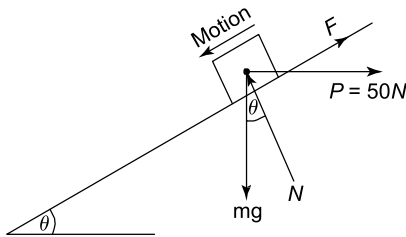

Figure 17.12
The primary forces for this problem are shown in Figure 17.12, where it can be seen that F is opposite to the direction of motion.
11. Determine the value for θ which will just cause motion down the plane, when $P = 250 \text{ N}$ and acts in the direction shown in Figure 17.12. It should be noted that in this problem, motion is down the plane, $\mu = 0.5$ and $m = 50 \text{ kg}$. [$\theta = 53.58^\circ$]